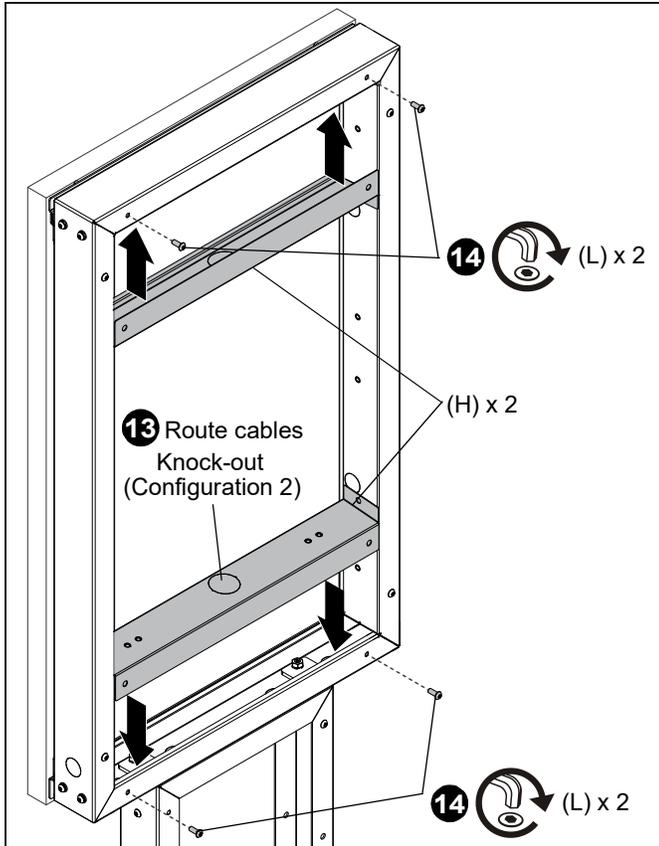

Figure 20
- Route all cables through grommets in horizontal covers (H) down into the top of the base.
- Install two horizontal covers (H) to the top and bottom of the frame(s) using four M8 x 20mm security screws (L). (See Figure 20)